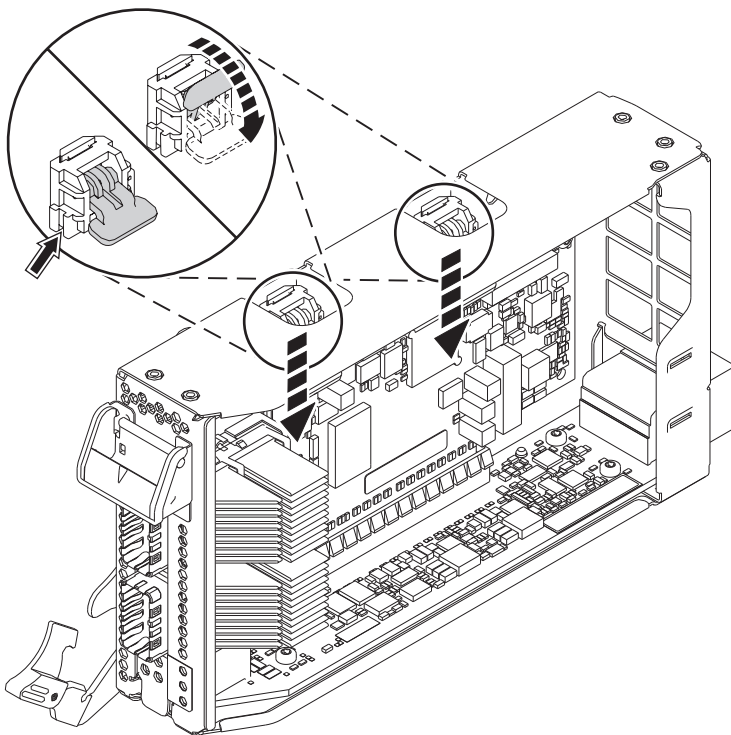

Figure 31. Locking the cassette ratchets
- d. Rotate the cassette ratchets that are at the top edge of the cassette to lock the adapter in place. See Figure 31.